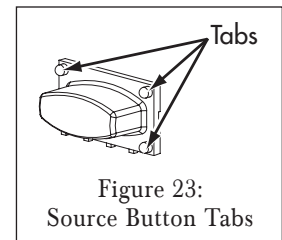

Figure 23:
6. Place all 4 of the desired Source buttons into the keypad bezel. The tabs on the buttons will fit-into the depressions adjacent to the openings on the back of the bezel (see *Figure 23*).